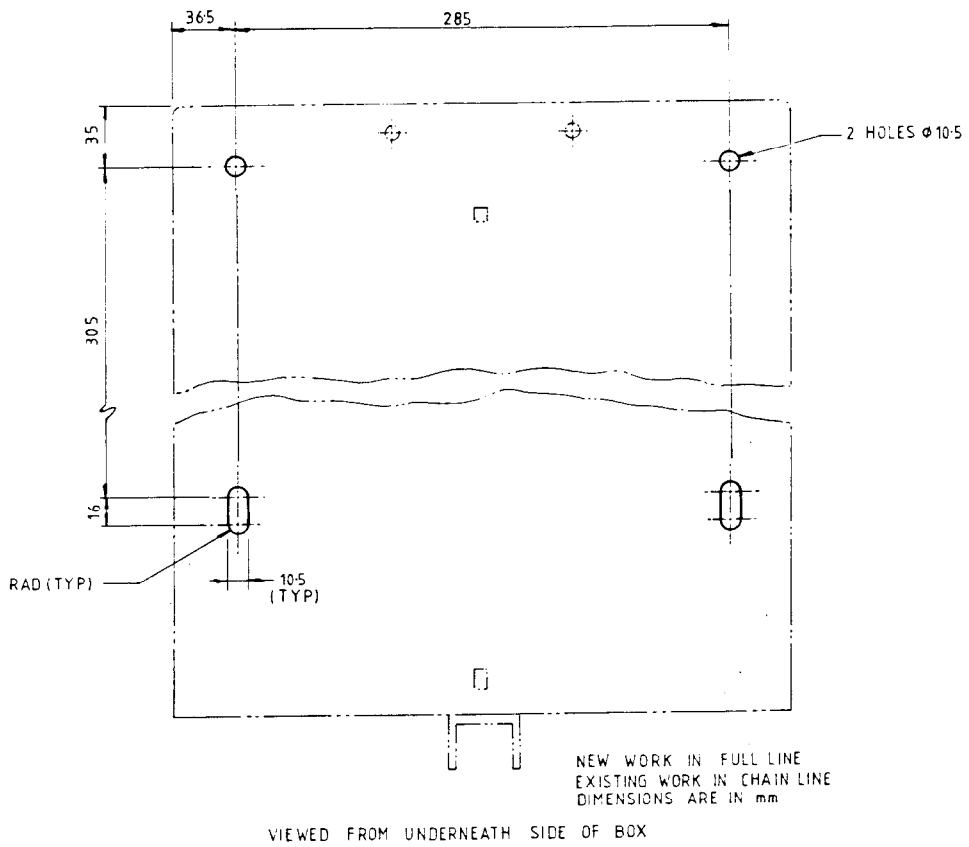

FIG 2 - BASE OF BATTERY BOX LOWER
11. Modify the battery box lower as per Fig 2.